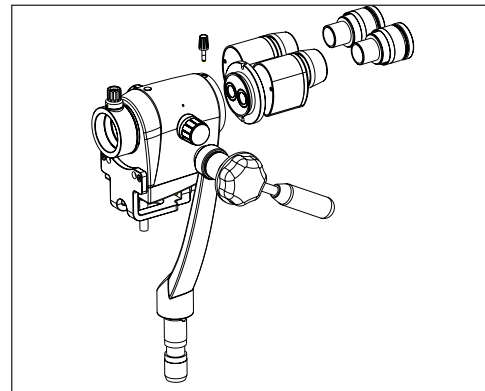

Fig. 6
7.5 Install the binocular head and eyepieces on the magni-changer. Secure the binocular head with head locking screw. See figure 6.